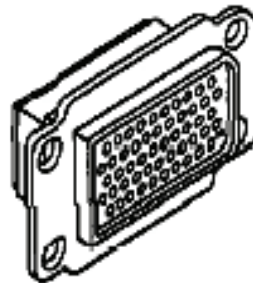

Figure 1. MIL-DTL-26518 Typical Connector
2. This Work Package (WP) covers miniature, high density, rectangular, rack and panel, environment resistant and hermetic connectors, both military and commercial, having pin and socket, front and rear release crimp removable power and coaxial contacts with fixed or float mounting (Figure 1).